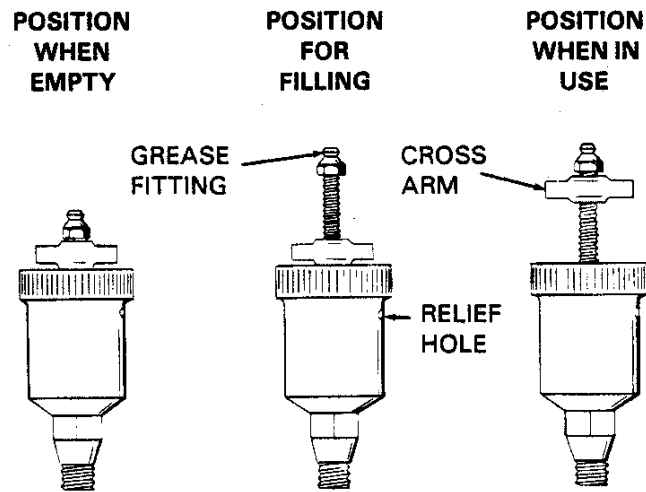

Figure 3. Automatic Lubricating Grease Cup
Before removing the seal assembly, turn the cross arm on the seal grease cup (16) clockwise until it rests against the cover (see figure 3). This will prevent the grease in the cup from escaping after the seal is removed.
Before starting the pump, fill the grease cup through the grease fitting with a good grade of No. 2 pressure gun grease until grease escapes from the relief hole. Turn the grease cup arm counterclockwise until it is at the top of the stem; this will release the spring to apply grease to the seal (see figure 3).